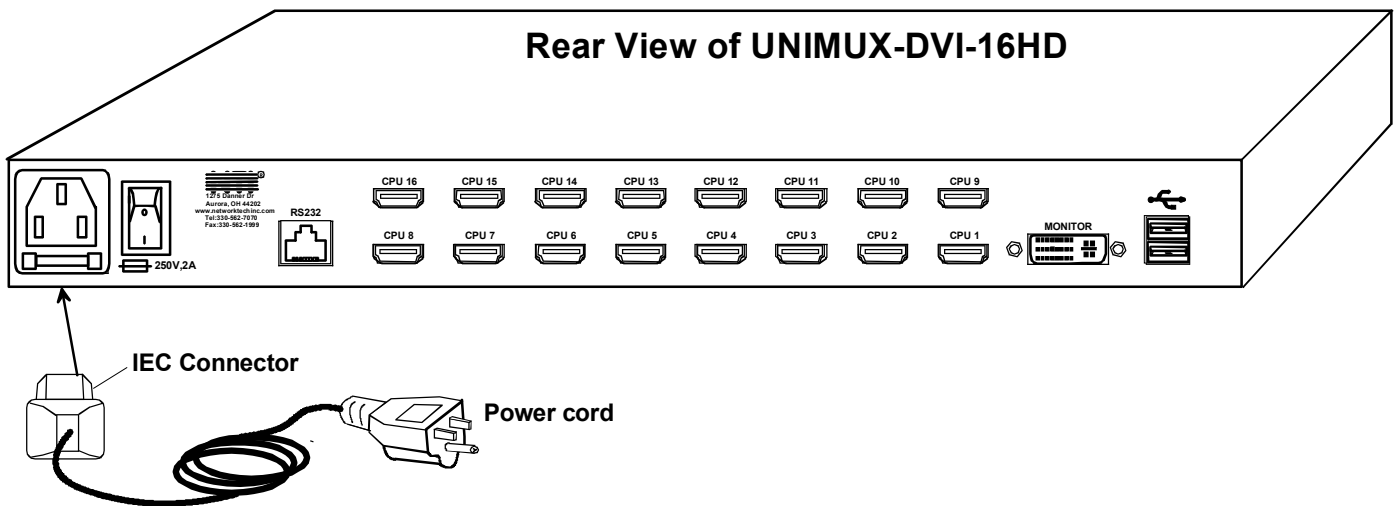

Figure 6- Connect the power cord
- Connect the AC power cord with IEC connector to the UNIMUX. (See Fig. 6 below.)